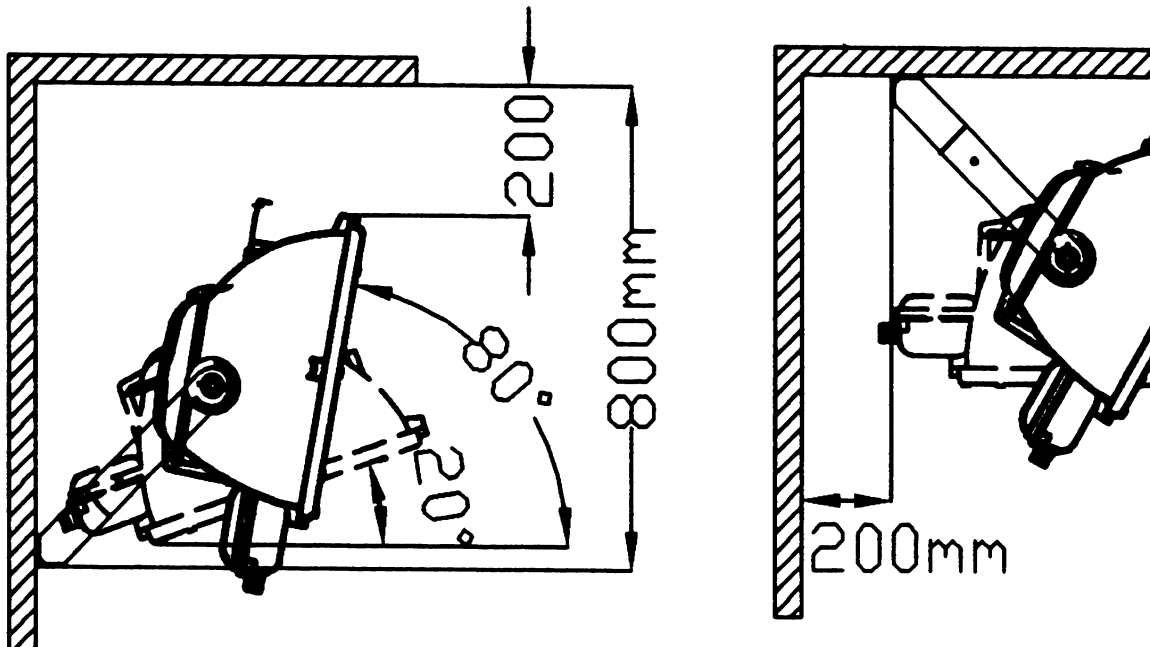

Fig. 2: Minimum distances on flammable materials.
- If you install the device on flammable materials (DIN 4102) make sure to provide minimum distances as shown in fig. 2.
- Each ballast unit 1000W (LLB or ECG) needs to be protected by 2x16A (LLB) or 1x16A(ECG) (B).
- The device may be fixed to flammable surfaces if a minimum distance according to Fig. 2 is guaranteed.